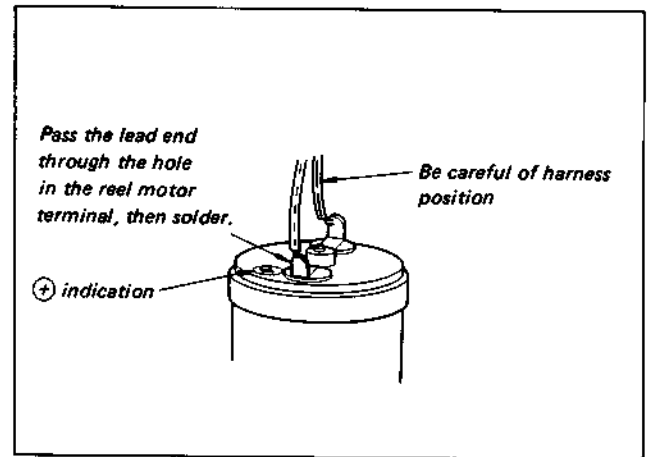

Fig. 3-33. Reel motor replacement (5)
- 3) Solder the harness as shown in Fig. 3-33.